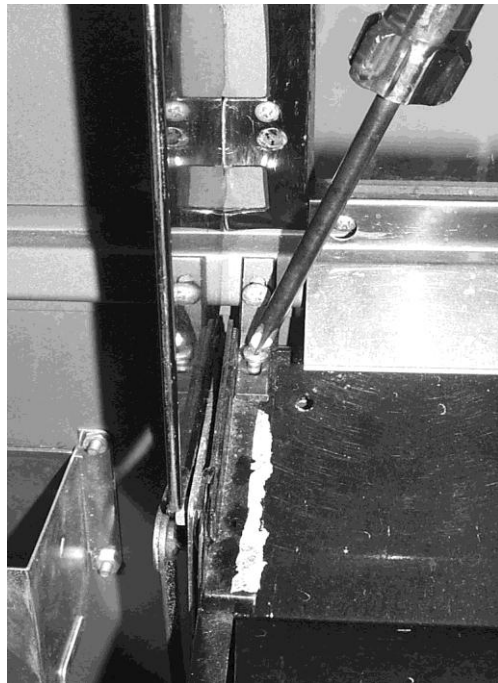

Figure 20.
21. Locate the two L-shaped brackets on both sides of the bin on the door. Unscrew the bottom screw completely with Philips screw driver. Next, loosen the top screw slightly to allow the bracket to move around freely. See Figure 20.